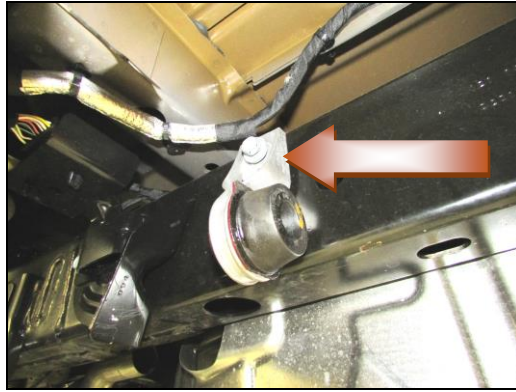

Figure 8
1. Remove (x2) bolts and remove (x1) OE rubber isolator mount (**Figure 8**).